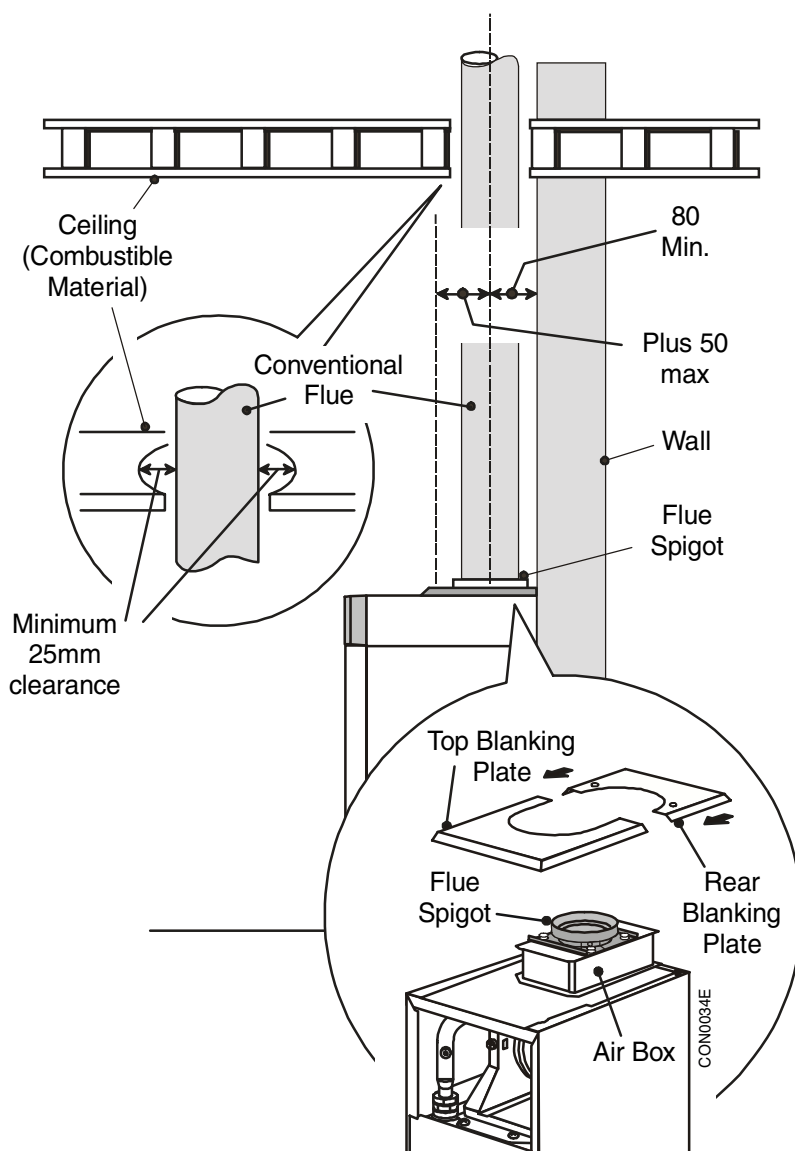

Fig. 13
6. Re-fit the flue spigot as shown in Fig. 13.
3. Determine dimension X + 20 mm See Fig. 13.